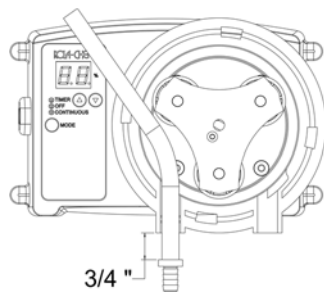

Figure 2
- 4) To install new Pinch Tube, Toggle the MODE Button intermittently between TIMER, OFF and CONTINUOUS positions to move Roller to position as shown in Figure 2 then switch OFF.
- 5) Lubricate Pinch Tube Assembly as noted in OPERATION section 4.1. Lay inlet end (without clamp) in inlet port on left with about $\frac{3}{4}$ " of Pinch Tube protruding from housing. See Figure 2.